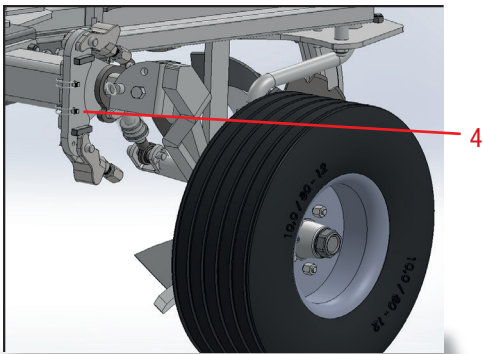
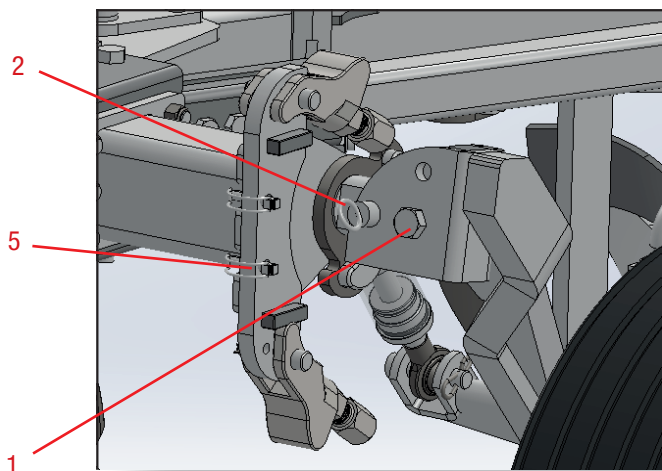

Figure 1
Figure 2
- The pin in hole 1 in Figure 2 is removed.
- The pin is fixed in the hole number 2 in Figure 2 and fixed with the safety cup.
- The depth adjustment forks are lifted up, the spring pins in the hole 1-4 are removed and inserted into the hole -5 in Figure 2.
- The pin in hole 2 in Figure 2 is removed and the wheel is turned 90 ° (degrees).
- The pin is fixed in the hole no. 1 in Figure 2 and fixed with the safety guillotine.
- The spring pins in the hole 5 in Figure 2 are unscrewed and the tuning forks are lowered and the spring pins in the hole 1 in Figure 1 are attached.